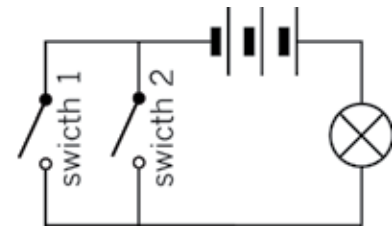

Figure 9: This circuit has OR-type control.
The circuit in Figure 9 has OR-type control. This type of control is used to switch on the light inside a car when you open one of the front doors. This is very useful when you get in or out of the car at night.
1. Look at the circuit in Figure 9. Both the switches are open (off). How can you get the bulb to light up? Think of three things you can do with the switches.